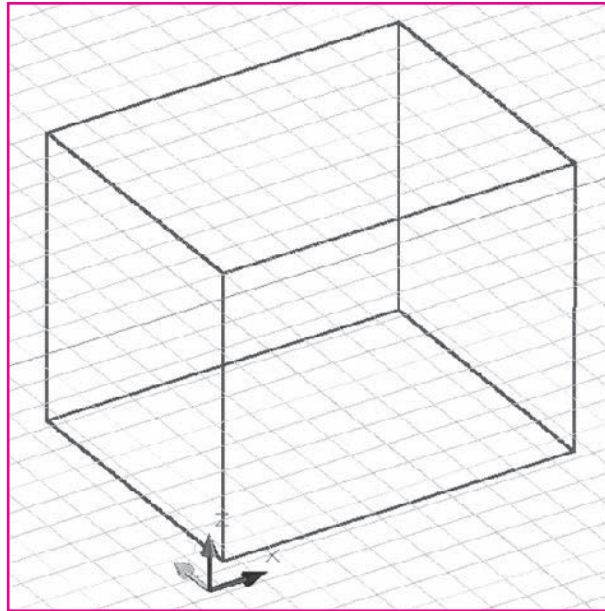

Fig. 40-2
9. Use the **LINE** command to draw the four vertical corners of the shed, as shown in Fig. 40-2.